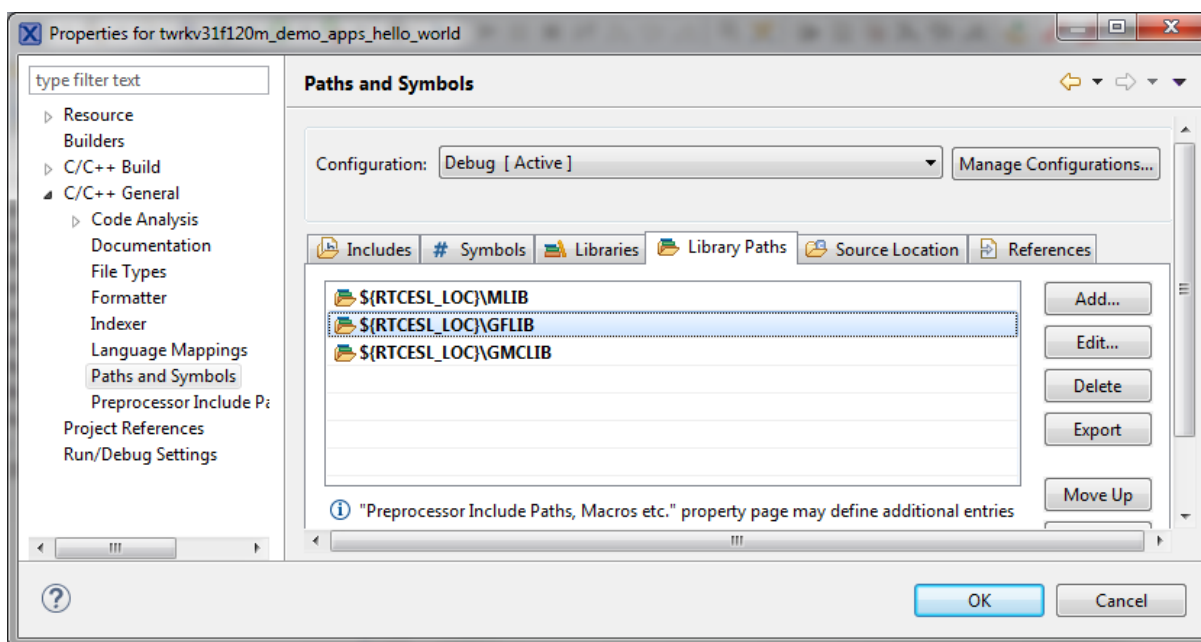

Figure 1-7. Library paths
3. In the right-hand dialog, select the Library Paths tab. See Figure 1-7.
10. Click OK, you will see the paths added into the list. See Figure 1-7.